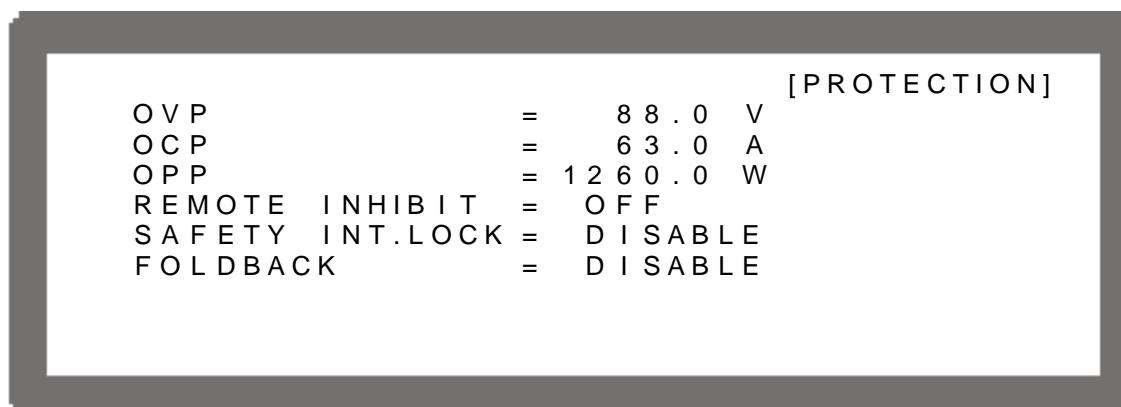

Figure 3-72
1. In Config Setup page, press “⁵” to show Figure 3-72.
- The value in Figure 3-72 is the default of 62012P-80-60.